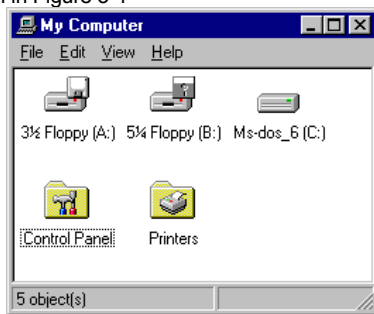

Figure 3-1.
2. OPEN the "My Computer" program group and SELECT the "control Panel" icon as shown in Figure 3-1